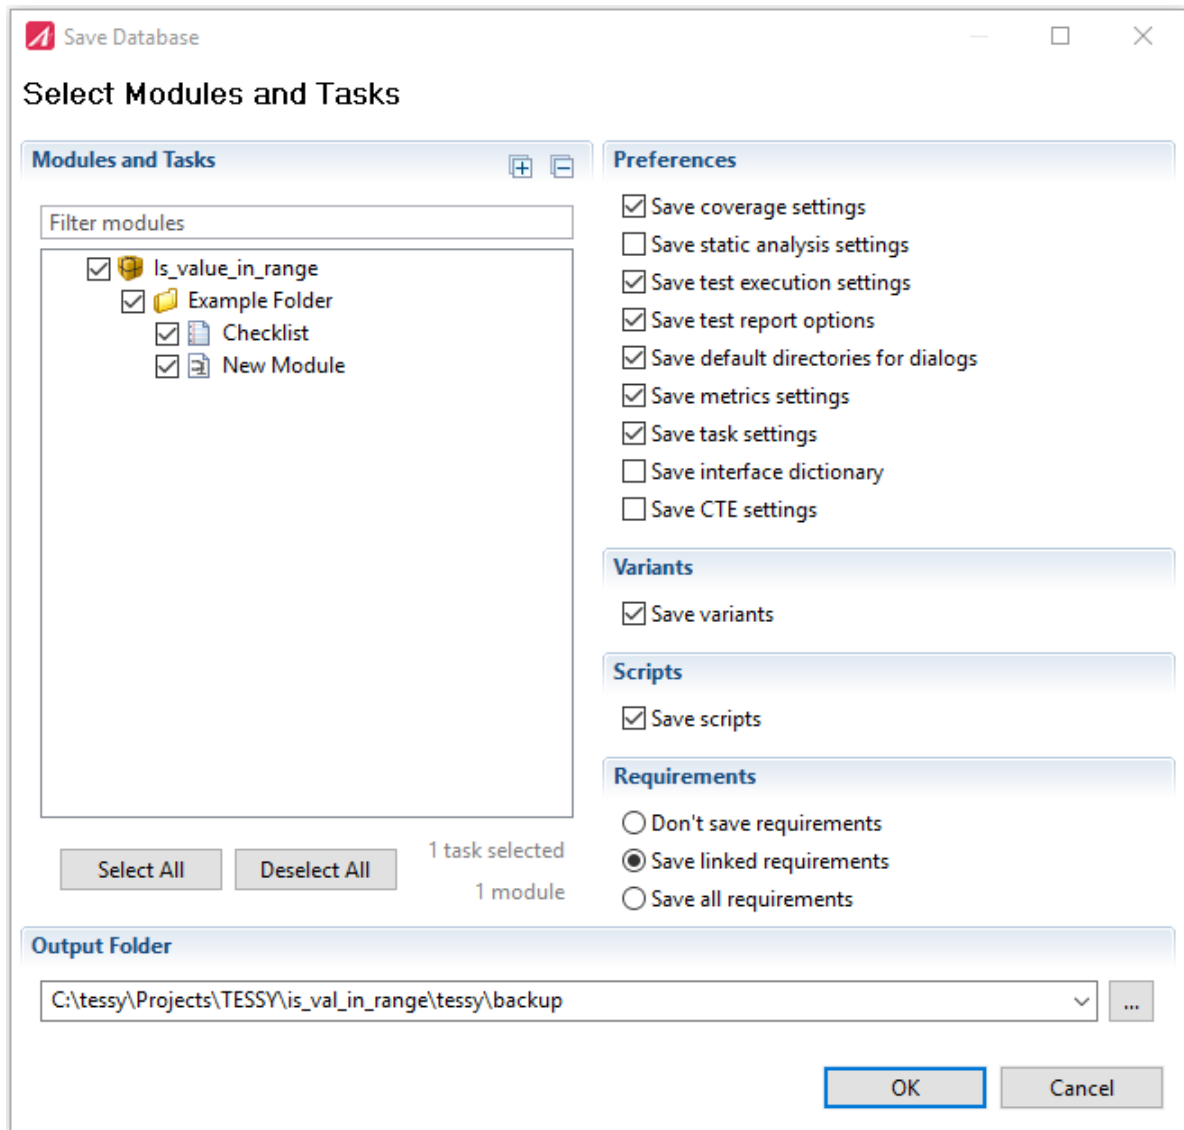
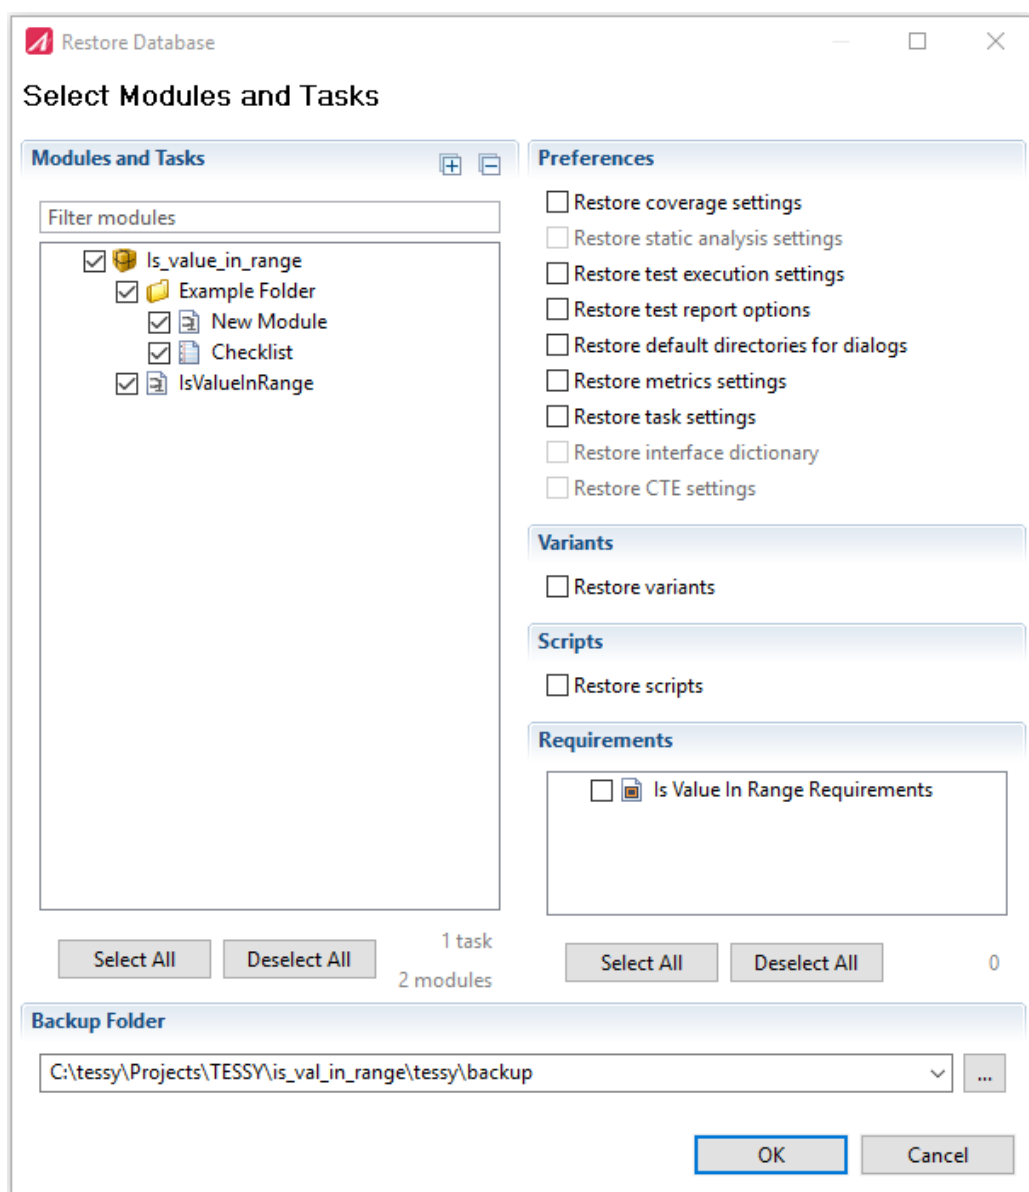

Figure 6.295: Save Database dialog
Figure 6.297: Restore Database dialog
- If you want to save variants and scripts, please remember to select it (see figure 6.295).
By choosing which preferences to save in the Save/Restore dialog (see figure 6.295 and figure 6.297) you can define the workspace preferences which are supposed to be overwritten whenever restoring the project.